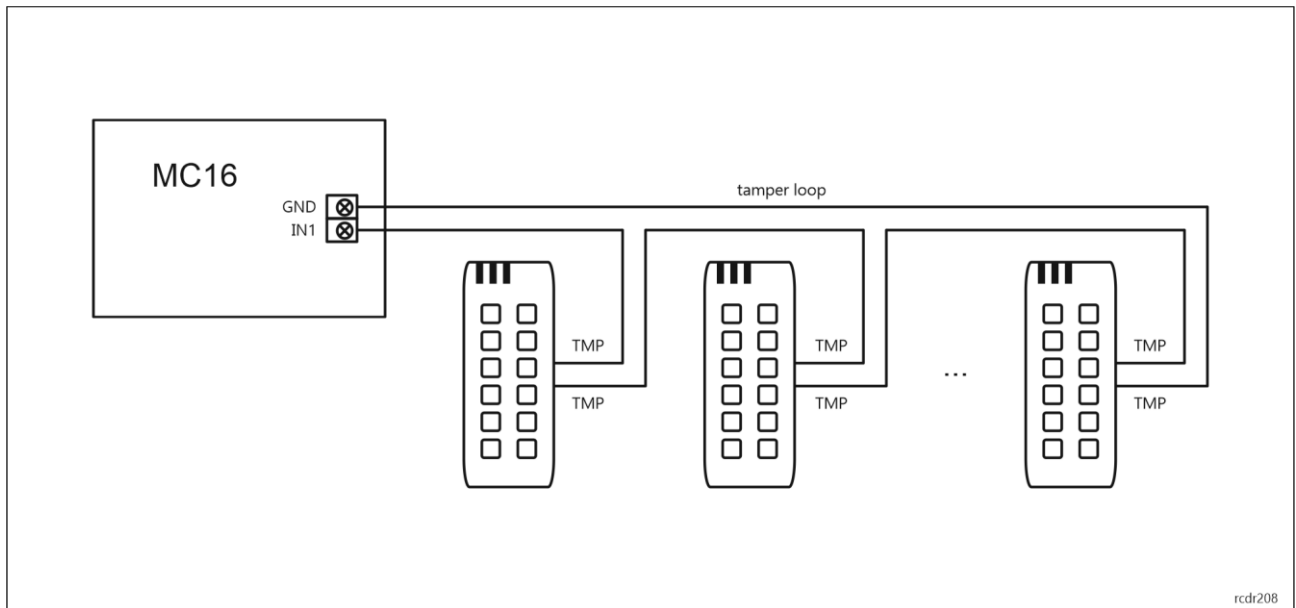
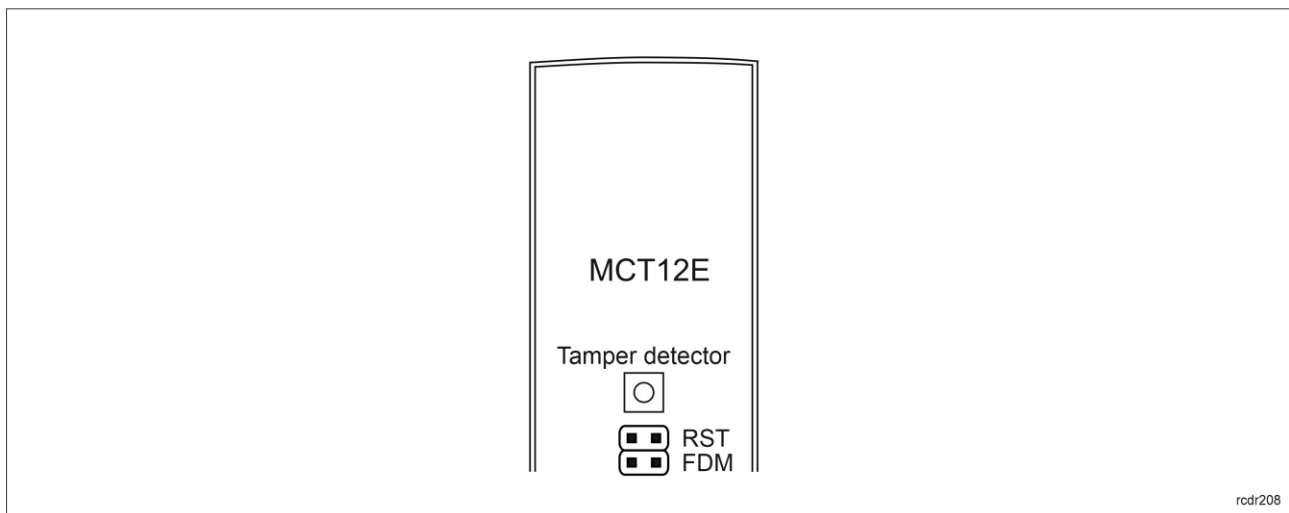

Fig. 3 Tamper loop example
Fig. 4 Programming jumpers
Built-in tamper (sabotage) detector enables detection of unauthorized opening of the device's enclosure as well as detachment of the enclosure from the wall. The detector is internally connected to the terminal's TMP wires. It does not require low level configuration (RogerVDM) but it is necessary to connect it to the controller with wires as in the example in fig. 3. It is also essential to mount the front panel in such a way as the tamper detector (fig. 4) would firmly press the back panel.
- Front panel should be attached in such way as the tamper detector (fig. 4) would firmly press the back panel.
2. Place jumper on FDM contacts (fig. 4).